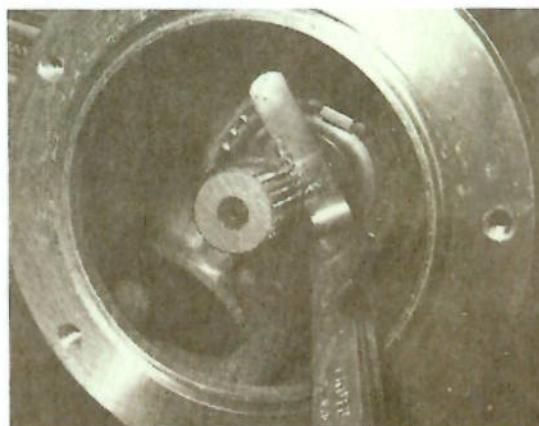

FIG. 22 - CHECKING CLEARANCE WITH A FEELER GAUGE.
39. Install a snap ring (P/N 1027) in the second groove from the output end of the overdrive input shaft. NOTE: Check the clearance between the end of the sun gear and the snap ring using a feeler gauge (Fig. 22). The acceptable tolerance is .020 inches to .060 inches. If the clearance is less than .020 inches, the pinion gear cage cannot be installed. The appropriate thickness of bearing pre-load shims must be removed from the rear bearing cup and placed ahead of the forward bearing cup. If the clearance is greater than .060 inches, the pinion gear cage will interfere with the output shaft flange causing major damage to the gear set. To correct this condition, remove the housing from the transfer